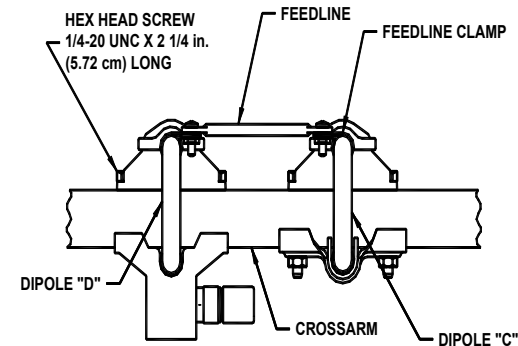

FIGURE 1
2. Next, starting with dipole "C" assemble dipole "C" and "D", to their marked locations on the crossarm as shown in Figure 1.. Use the 1/4-20 x 2 1/4" hex head screws.
- Install 6 Clamping Bolts and Hex Nuts to the antenna base per Fig. 1.